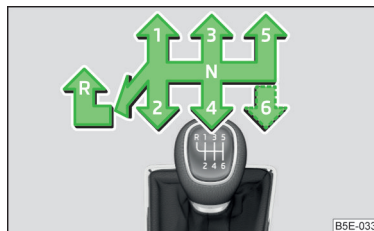

Fig. 244
The gearshift pattern for the individual gear positions is shown on the gear lever » Fig. 244.
- Move the gear lever forward into the **R** position » Fig. 244.